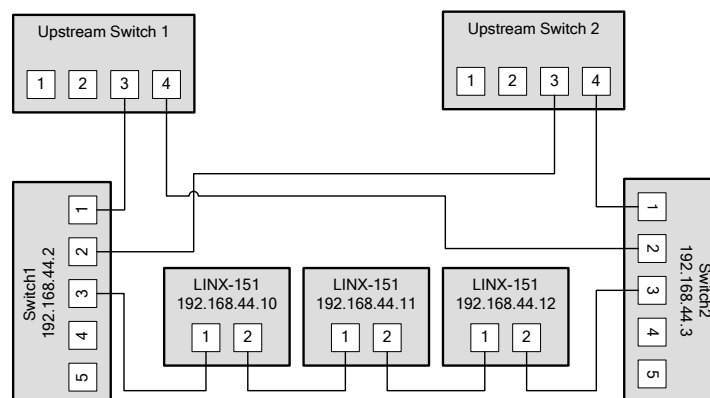

Figure 359: Ring Ethernet topology
**Ring topology:** In this setup, the devices are connected in a chain and each end of the chain is connected to a different upstream switch. This topology requires RSTP. If a single device is powered off, the RSTP will automatically recalculate the spanning tree so that all other devices in the chain are reachable. Only if two devices are power-off at the same time, the devices between them will not have an Ethernet connection. In Figure 359, the L-INX devices with IP addresses from 192.168.44.10 to 192.168.44.12 are connected in this way. The recommended maximum number of daisy-chained devices is 20.